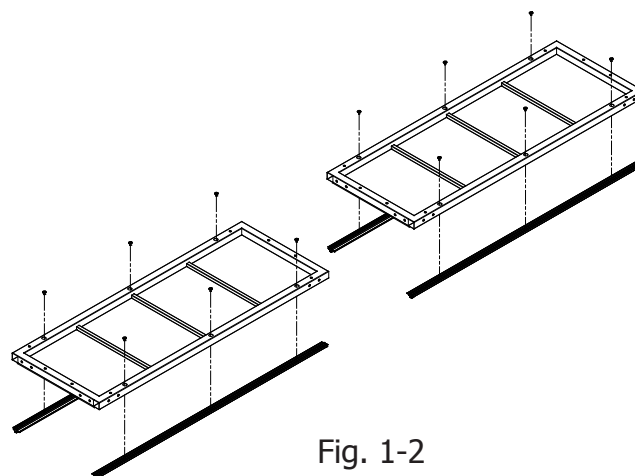

Fig. 1-2
**1-2:** Using the 4mm Allen wrench remove the three screws from each track support and set the track support aside in a safe place (**Fig. 1-2**). Leave the table sections face down for **Step 2-1**.